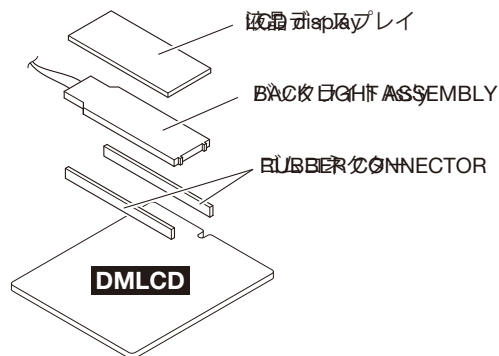

Fig.3
3. Remove the back light assembly. (Fig.3)
4. Remove the rubber connector. (Fig.3)
5. Remove the LCD display. (Fig.3)
- * *Avoid touching the conductive part of the rubber connector as much as possible. Should foreign matter or dirt adhere, remove such contamination using adhesive tape or the like. Do not wipe off using solvents such as benzene or alcohol. (Fig.3)*